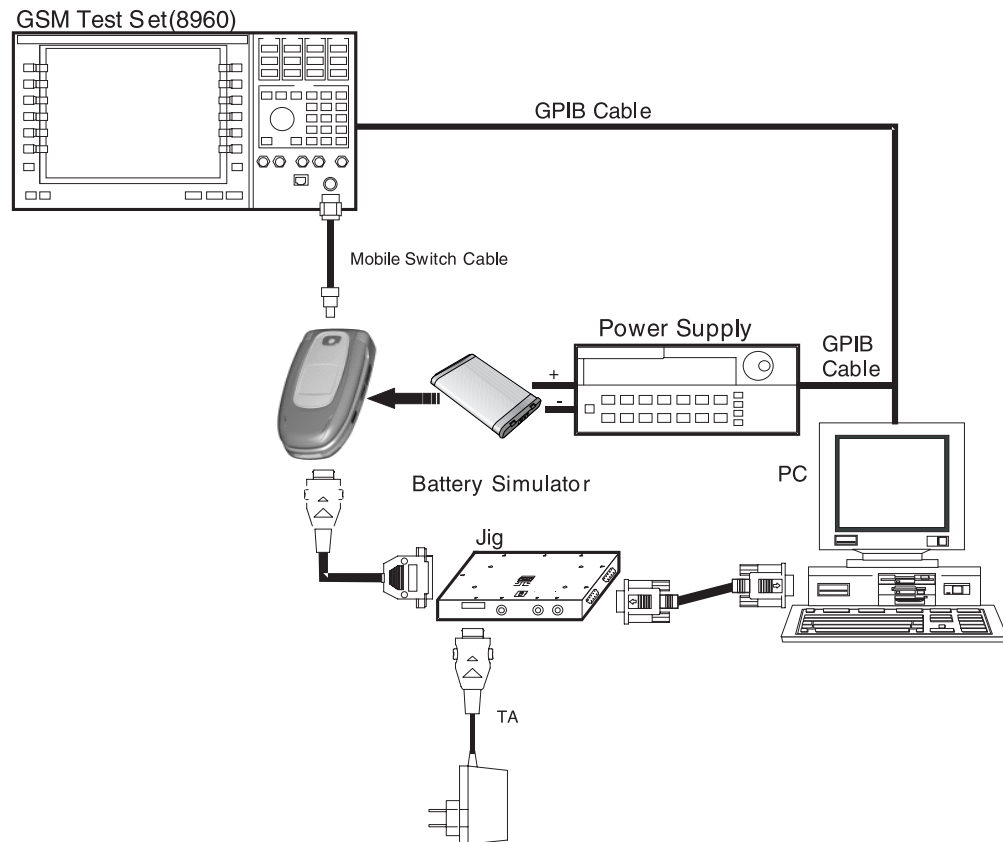

Figure 5-2. Equipment Setup
1. Connect as Fig 5-2(RS232 serial cable is connected between COM port of PC and MON port of TEST JIG, in general)